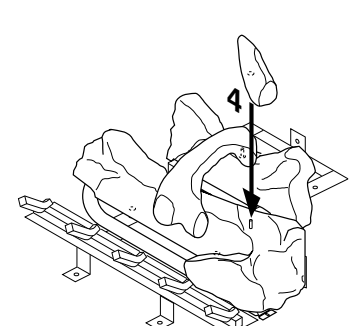

Figure 21 - Installing Log #4, Models CD32M/CD36M-A Series
4. Place log #4 (small round log) on pin on right side of front log (see Figure 21).